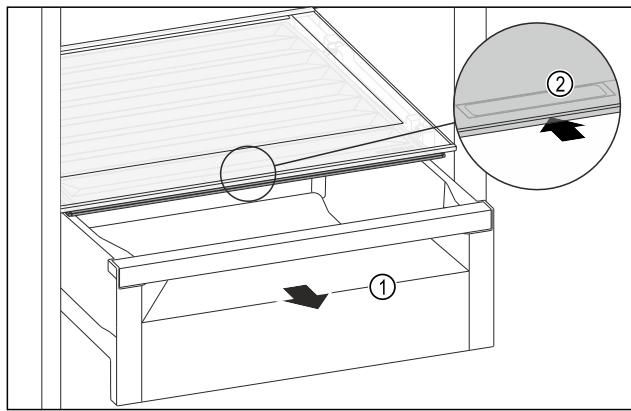

Fig. 102
- ▶ Pull out the drawer *Fig. 102 (1)*.
- ▶ Grasp the recessed grip *Fig. 102 (2)* on the compartment lid and push the compartment lid backwards at the same time.